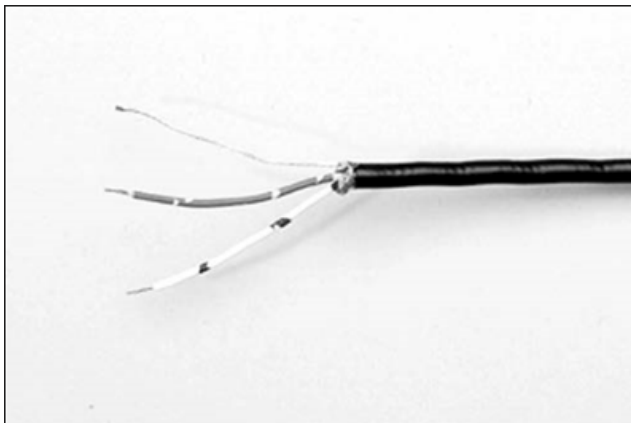

Figure 18 - Insulating Braided Shield
4. Apply heat-shrink tubing to insulate the braided shield and to provide stress relief to the cable as shown in Figure 18.